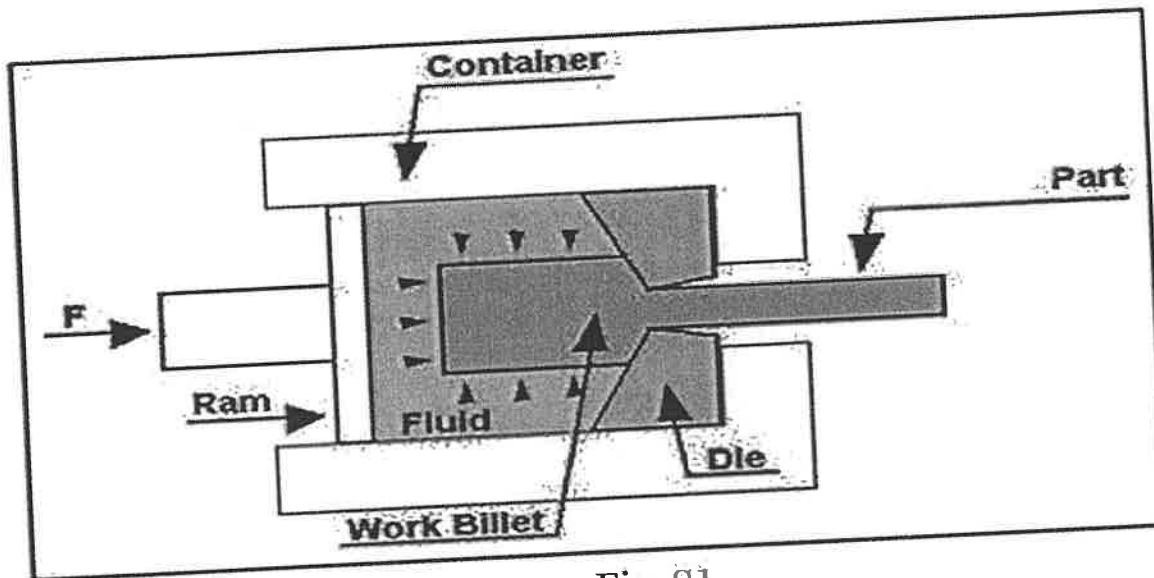

Fig. S1
- Describe the process shown in Figure S1.